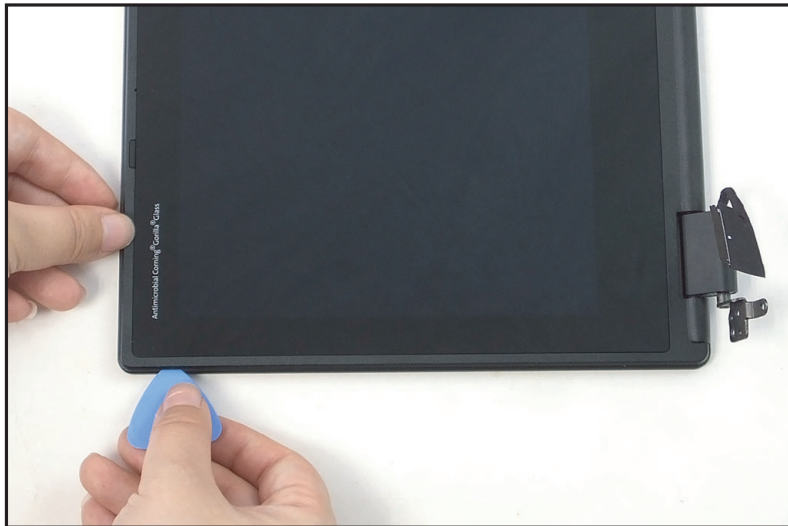

Figure 1-42. LCD Panel Removal
4. Continue along the left side of the LCD panel releasing the latches (Figure 1-42).